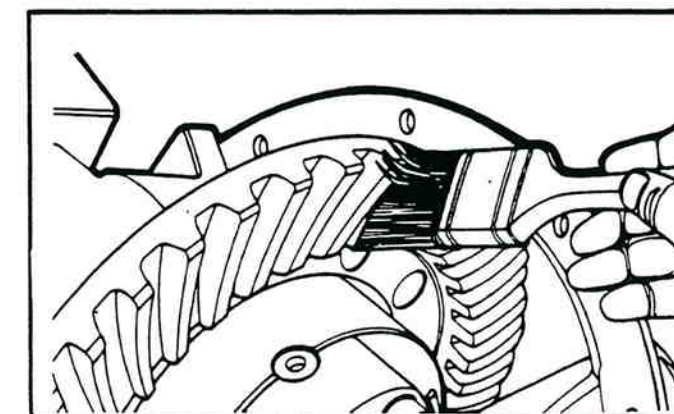

Figure 2-88. Applying Marking Compound.
2. Apply a marking compound, such as oiled red lead, to approximately 12 gear teeth of the ring gear. Rotate the ring gear so that the 12 gear teeth are next to the drive pinion (Figure 2-88).